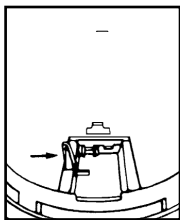
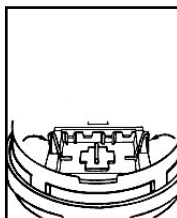

FIGURE 7
FIGURE 7A
5. When installing the battery, press the battery reminder finger down into the battery compartment and install the battery (see figure 7 and figure 7A for the i9080EU alarm).
The safety light has a 6.3 V 250mA fuse lamp with an average life of 50 hours. If the safety light fails to operate with a fresh alkaline battery, then replace the lamp. To replace the lamp, remove the alarm from the mounting bracket by rotating the alarm in the direction of the "OFF" arrow on the cover (See Figure 7, and Alarm Tamper Resist Feature section if this feature has been activated).